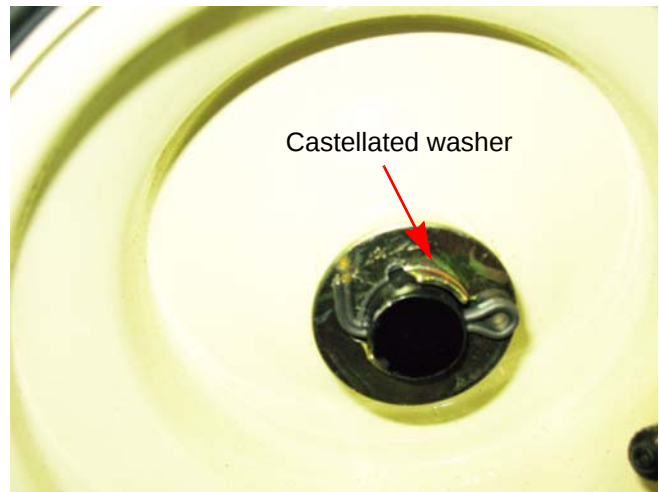

Figure 3.5
3. Remove the cotter pin and the castellated washer. See Figure 3.5.